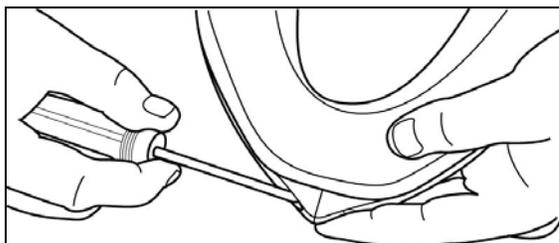

Fig. 25
1. Remove the Phillips screw from frame. Pull the frame away from the faceseal. (Fig. 25)
6. Remove the Phillips screw from frame. Pull the frame away from the face seal. (Fig. 25)